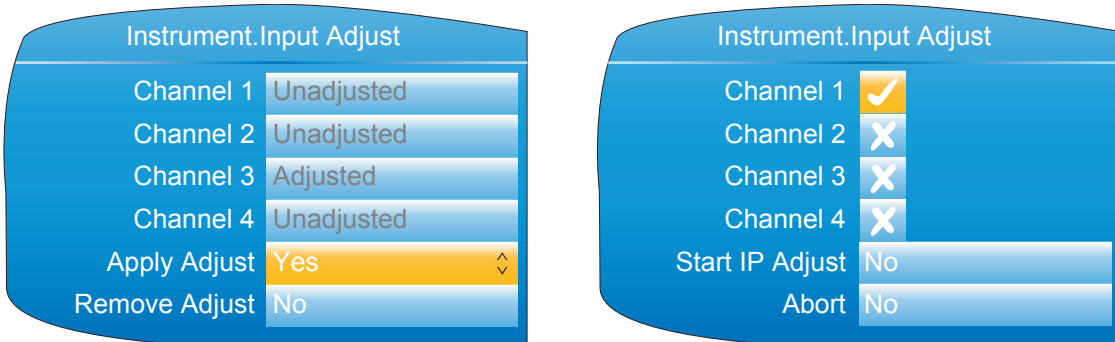

Figure 50 Channel adjustment procedure (1)
- As shown in Figure 50, highlight the 'Apply Adjust' field, and operate the scroll key to enter edit mode. Use the up or down arrow key to select 'Yes'. Use the scroll button to change Channel 1 'cross' to a 'tick' (check mark). Similarly select any other channels which require adjustment.